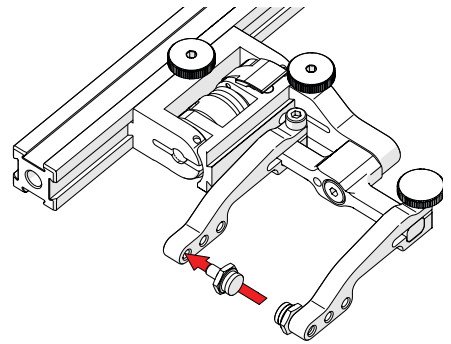

**Fig. 29** - Adjust on frame bar
- 2.** Use the probe holder adjustment knob to position the probe holder along the frame bar (*Fig. 29*).